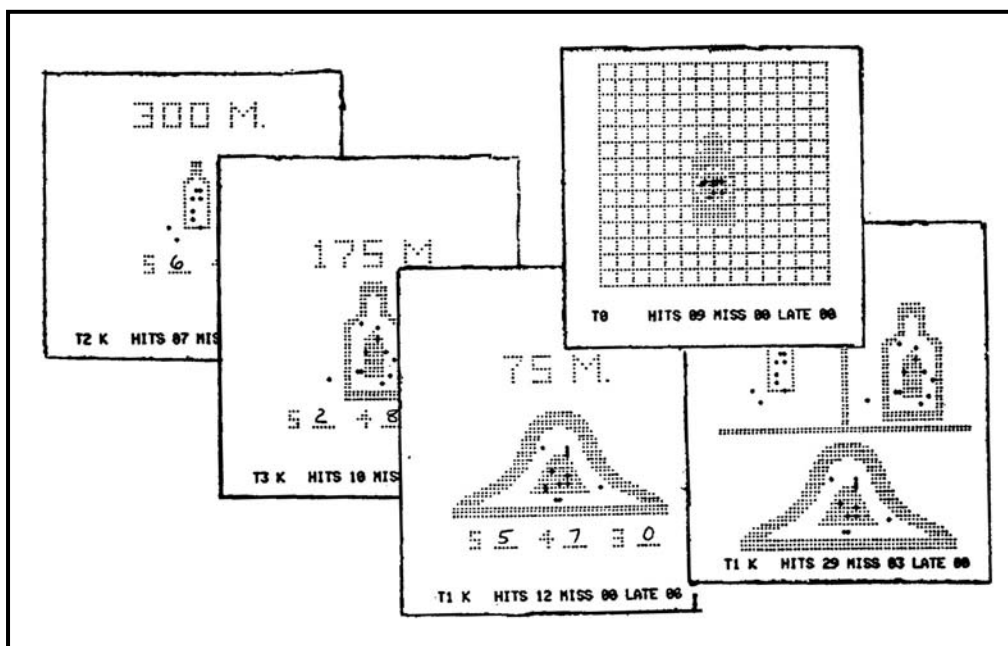

Figure A-13. Weaponeer printouts.
(6) **Printer.** A hard-copy printer is provided for postfiring analysis, for firer progress tracking, and for record keeping. Pressing the PRINT button causes the target displayed on the video to print. (Sample printouts are shown in Figure A-13.) Some Weaponeers can print the three pop-up targets at the same time by holding in the REPLAY button and pressing the PRINT button.